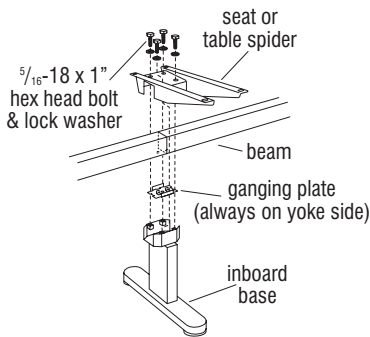

Figure 8
1. Beams joined in this manner require a ganging plate. Position the ganging plate (with tabs facing up) into the "yoke" of the inboard base as illustrated (Figure 8).
2. The beams to be joined have alignment holes at the end which must face down. Set the beams into the inboard base so the tabs of the ganging plate fit into the holes in each beam (Figure 8).
3. Place the appropriate seat, bench or inline table spider over the pair of beams and the inboard base. Secure the spider to the base with four 5/16-18 x 1" hex head bolts and lock washers. Tighten diagonally (Figure 8).